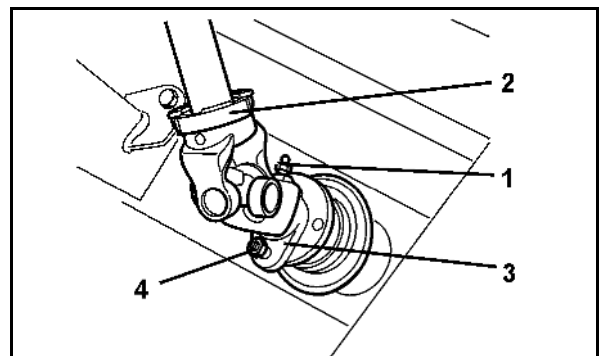

Fig. 59
9. Fit the guard half (Fig. 59/1).
10. Turn the PTO shaft guard (Fig. 59/2) to the block position.
11. Screw in the locking screw (Fig. 59/3).